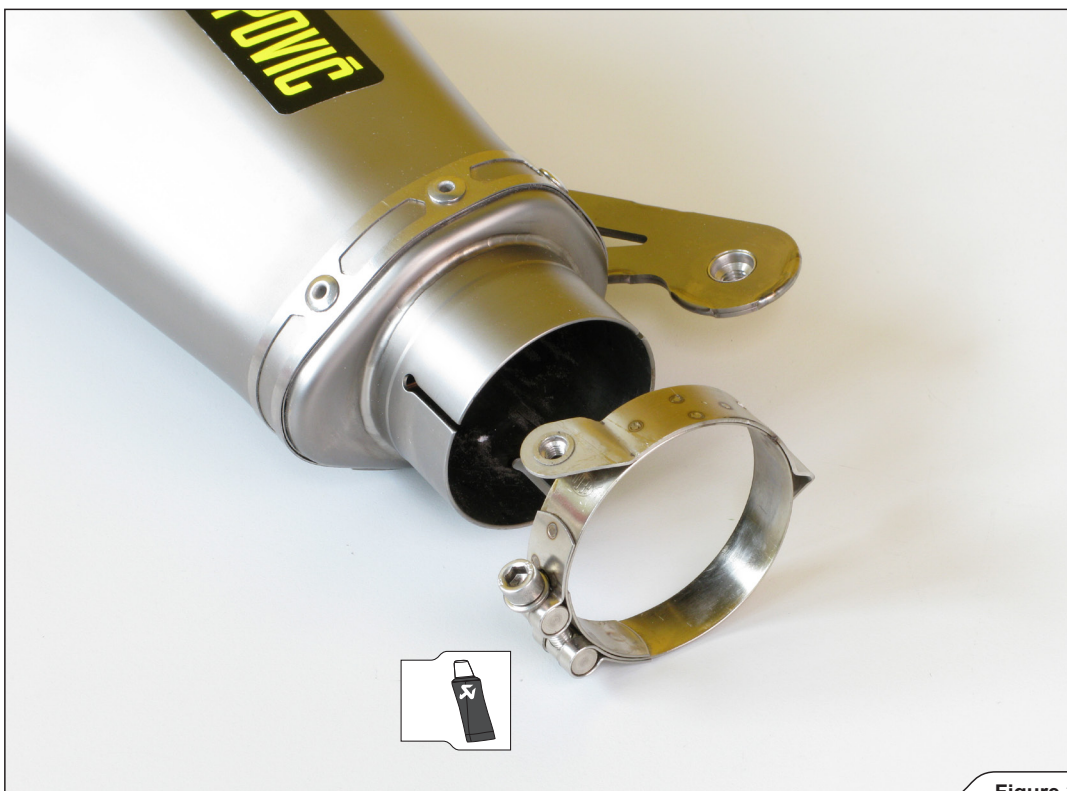

Figure 2
1. Correctly install the clamp onto the muffler inlet bush as shown (Figure 2).